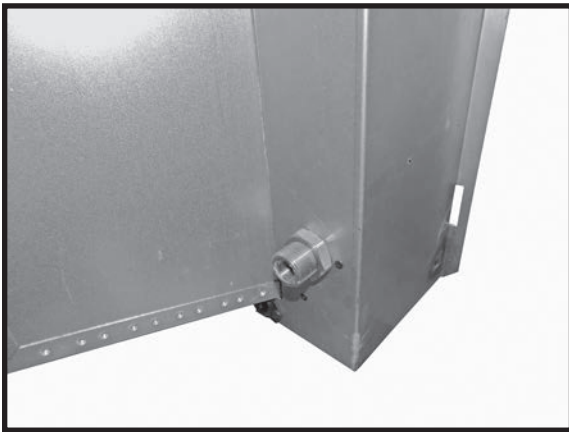

Figure 35: Tofino gas connection.
- Gas supply line connection is located on the left rear side of the insert (Figure 35). Gas connection accepts a 3/8" N.P.T. fitting. Correct gas line diameter must be used to assure proper operation and pressure. **Do not use external threads for gas connections. Use internal threads only.**